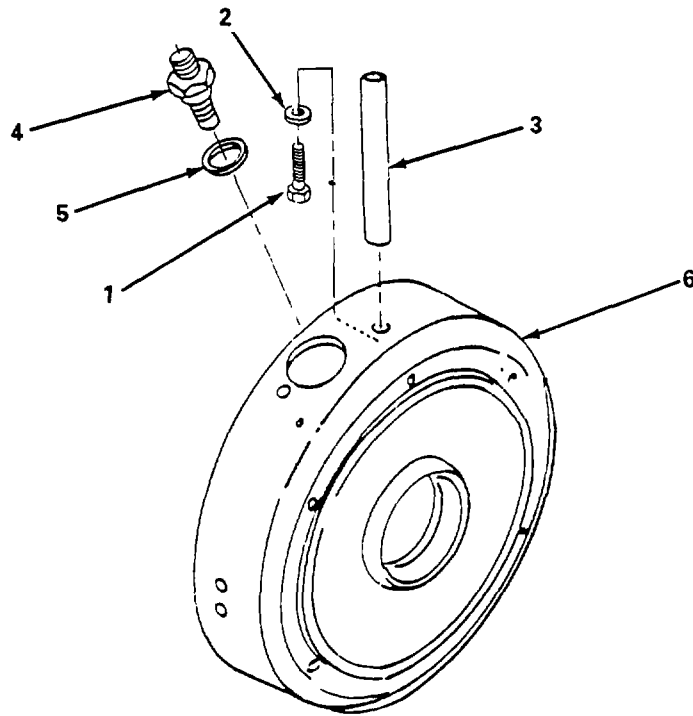

Figure 6-11. Crankcase Front Cover Assembly, Repair.
- (6) Install line (12) and tighten fitting nut (11).
- (7) Install four brackets (10) and secure with eight alien screws (9), washers (8), lockwashers (7), and nuts (6).
- (8) Install two brackets (5) and secure with four alien screws (4), washers (3), lockwashers (2), and nuts (1).
b. Repair. (figure 6-11)
- (1) Remove crankcase front cover assembly (para. a. above).